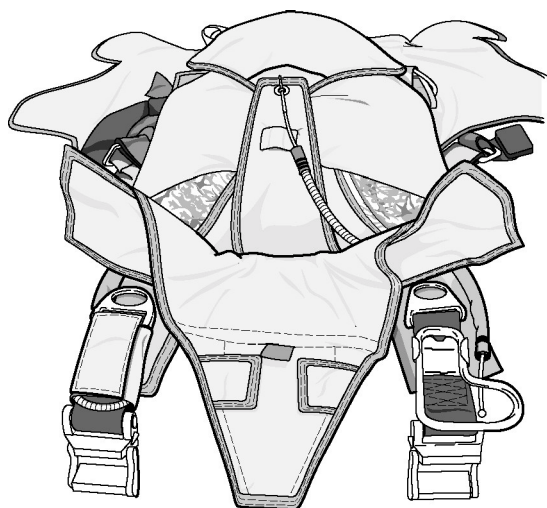

Figure 29. Closing Flaps 6 and 7
- k. Ensure ripcord housing runs along closing flap #3 and lays outboard at tacking loop (Figure 29).